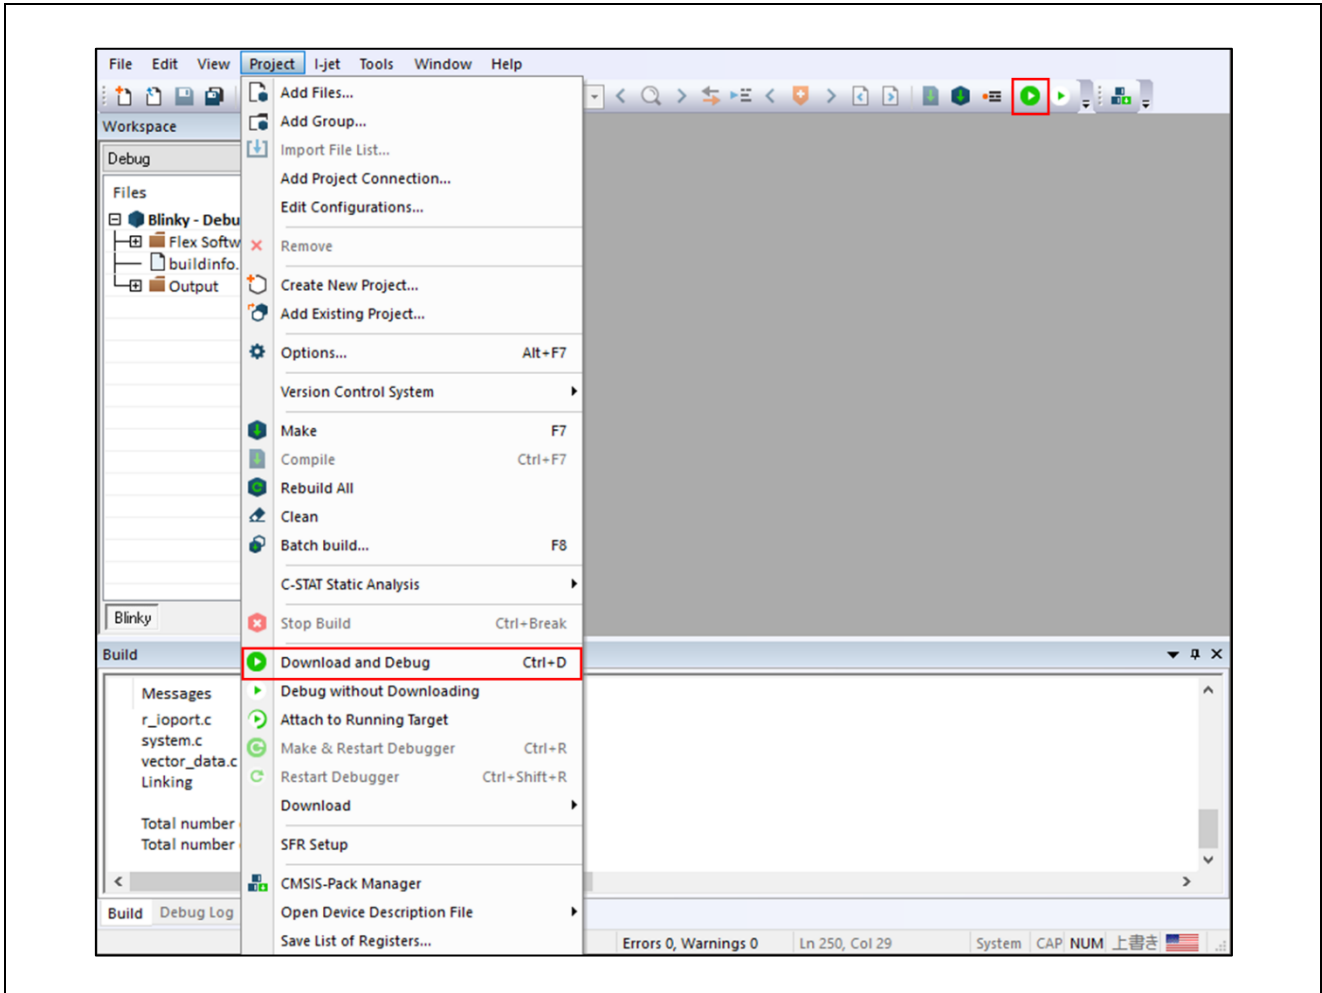

Figure 59 : Download and Debug Button
2. Download of the primary project with procedure 5.3.4 Download & Debug the Project as shown in Figure 59.